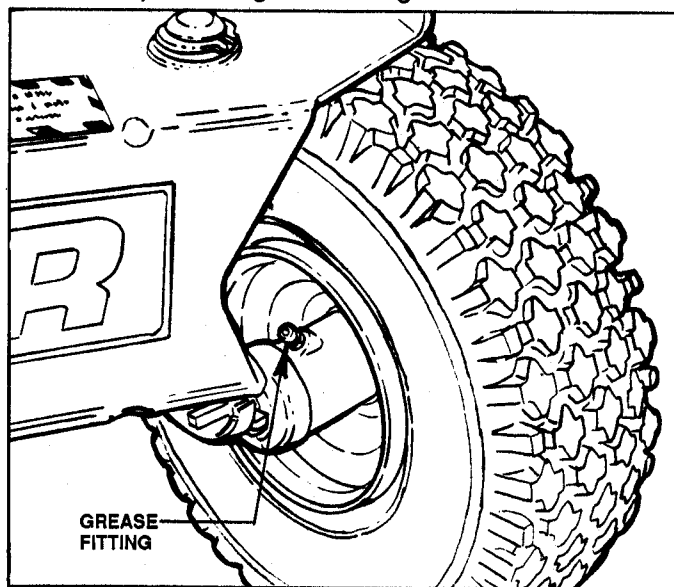

FIGURE 1.2
- A. **FRONT WHEEL BEARINGS:** Lubricate through fittings with bearing grease from a pressure gun. See Figure 1.2.